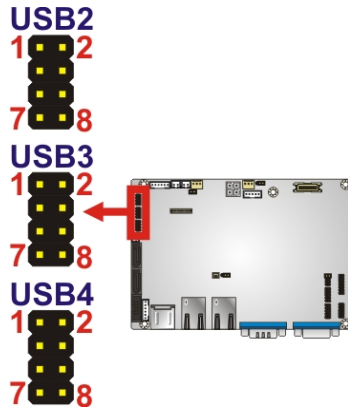

Figure 3-19: USB Connector Location
- CN Location:** See **Figure 3-19**